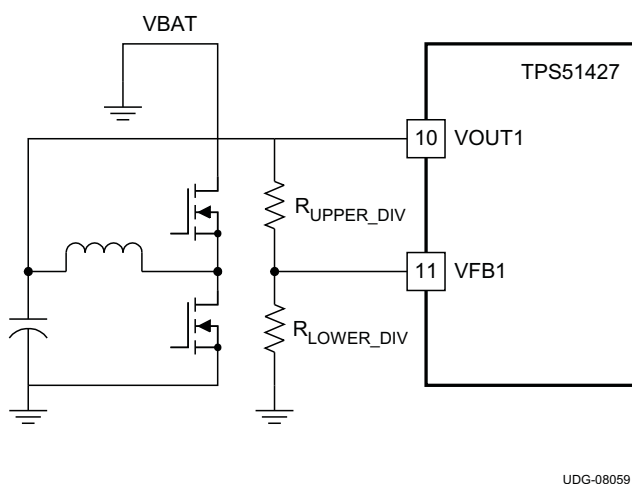
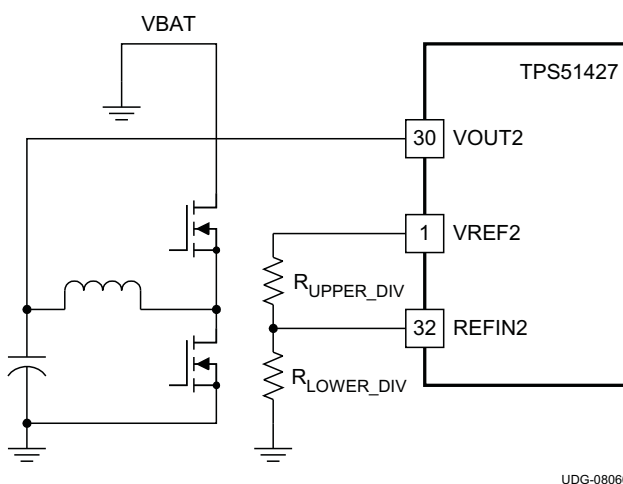

Figure 46. Channel1 Adjustable Voltage Configuration
Figure 47. Channel2 Adjustable Voltage Configuration
For the fixed 5 V/3.3 V option, tie VFB1 pin to GND and REFIN2 to V5FILT. For the fixed 1.5 V/1.05 V configuration, tie VFB1 to V5FILT and REFIN2 to VREF3. TPS51427 also supports adjustable voltage options for both channels. The adjustable range for Channel1 is between 0.7 V and 5.9 V and for Channel2 is between 0.5 V and 2.5 V. Figure 46 shows how to configure the adjustable voltage option for Channel1 and Figure 47 shows the configuration for Channel2. Also, equations are provided in Table 5 to aid the design process.
| ADJUSTABLE VOLTAGE OPTIONS | <p>VOUT1 is set by R_{UPPER_DIV}, R_{LOWER_DIV}, and VFB1 Figure 46</p> $V_{VOUT1} = V_{VFB1} \times \left(\frac{R_{UPPER_DIV} + R_{LOWER_DIV}}{R_{LOWER_DIV}} \right) \quad (7)$ <p>where</p> <ul style="list-style-type: none"> V_{VFB1} = 0.7 V | | <p>VOUT2 is set by R_{UPPER_DIV}, R_{LOWER_DIV}, and VFB1 Figure 47</p> $V_{REFIN2} = \left(\frac{(R_{LOWER_DIV} \times V_{VREF2})}{(R_{UPPER_DIV} + R_{LOWER_DIV})} \right) \quad (8)$ <p>where</p> <ul style="list-style-type: none"> V_{VREF} = 2 V V_{VOUT2} = V_{REFIN2} | |